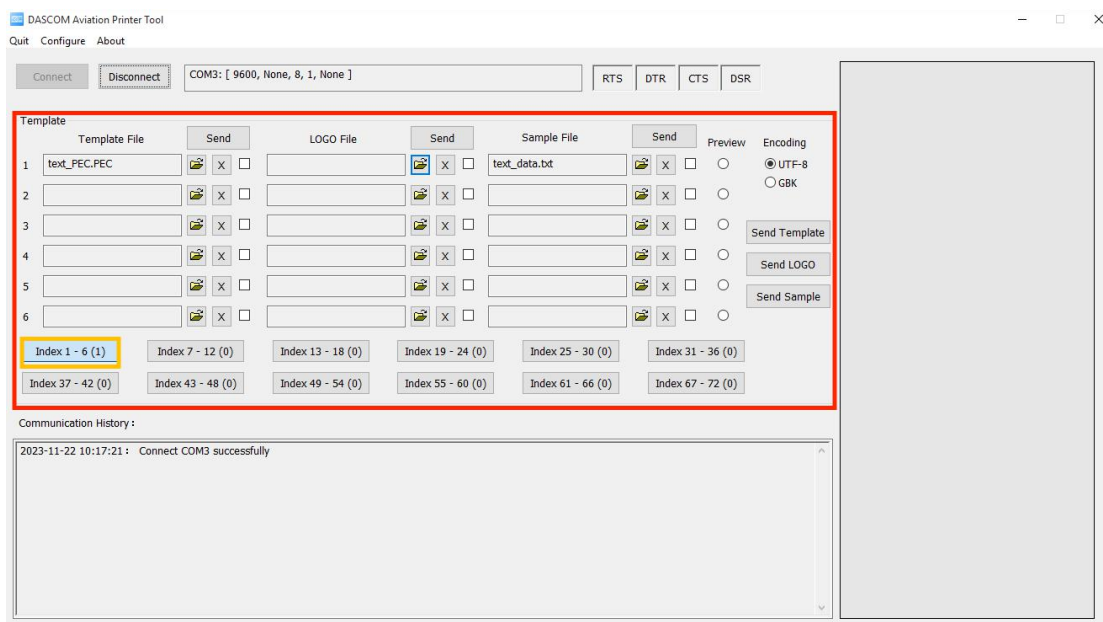

Figure 1
(1) The tool provides you with a data grouping, recording the files of each grouping application for easy management.
(2) The red box area in Figure 1 and Figure 2 is the organizing interface.
(3) The orange boxes in Figures 1 and 2 are the serial numbers of organizing applications
(4) Organizing instructions:
Referring to the orange box area in Figure 1, the button appears with blue background, representing the currently selected group.